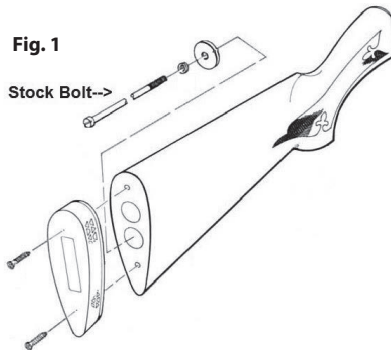

Fig. 1
1. Verify that the firearm is unloaded and pointed in a safe direction before removing the stock. Remove the original stock. Refer to manufacturer's instructions for the best method to remove the stock. Typically the pad is held in place by two Phillips screws, and the stock is held on by one bolt. Remove the pad by unscrewing the Phillips screws, and remove the stock bolt to free the stock from the receiver (*Fig. 1*).